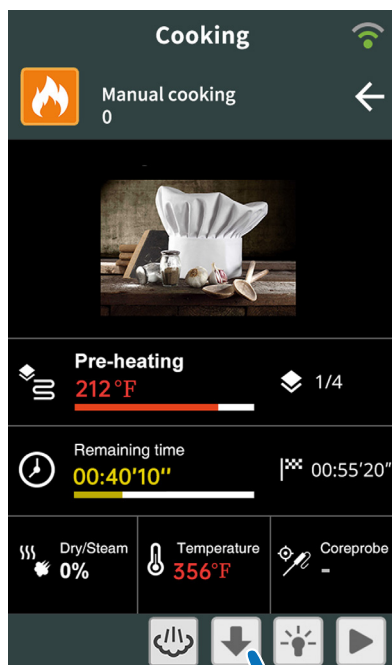

Fig 39
1. In the cooking process page, press  to enter the cooking parameter setting page (Fig 39).